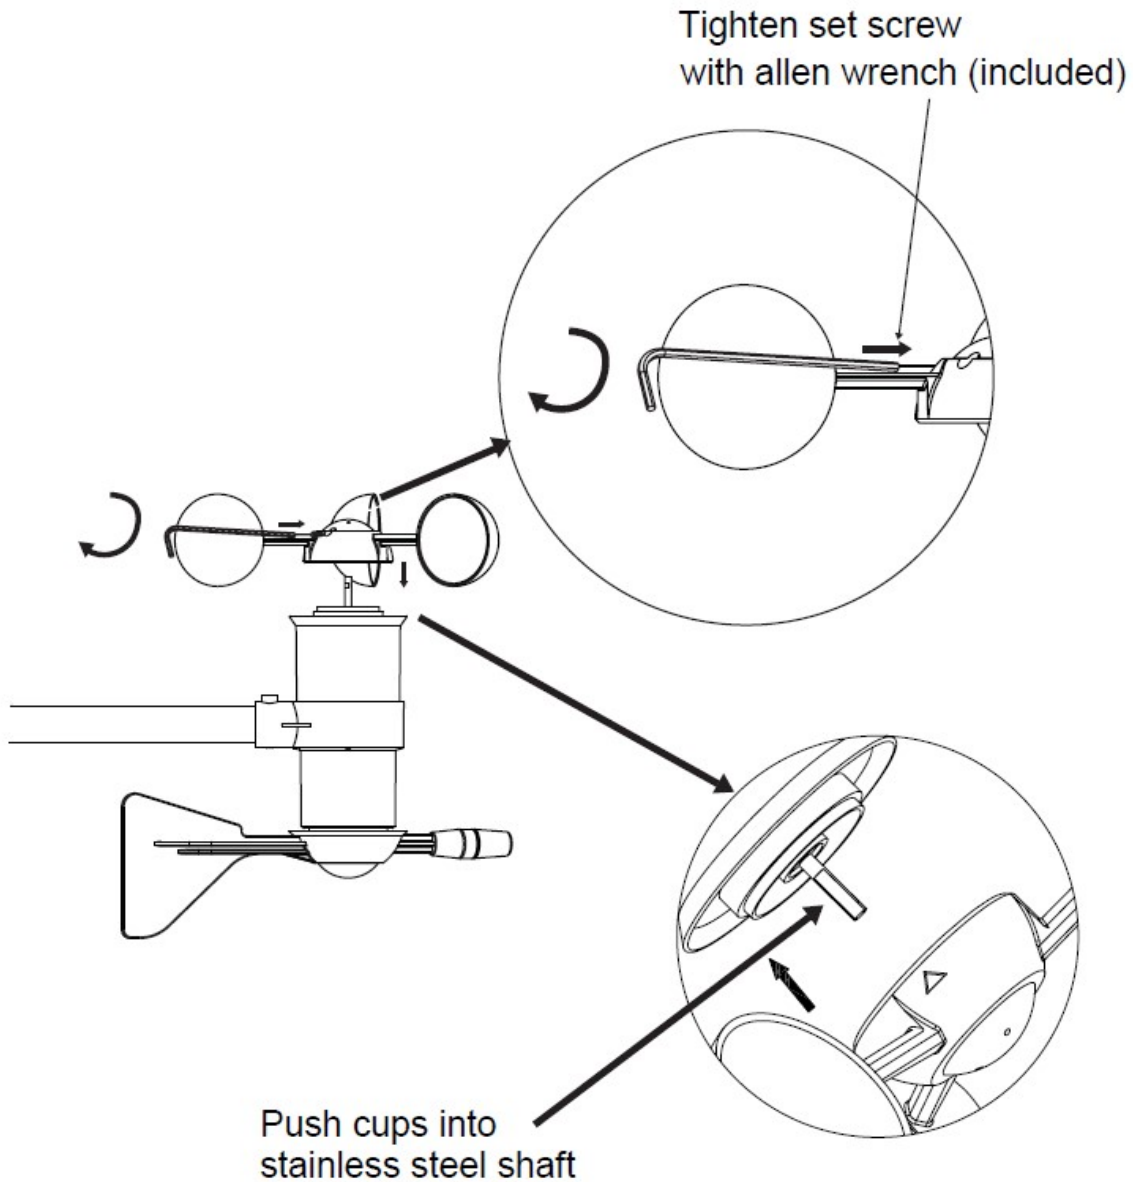

Figure 5
2. **Attach the wind cups to the anemometer assembly** (if necessary, some weather stations come pre-assembled).. Push the wind cups into the anemometer shaft, as shown in Figure 5.
Tighten the set screw with the Allen Wrench (included), as shown in Figure 5. Make sure the wind cups spin freely.